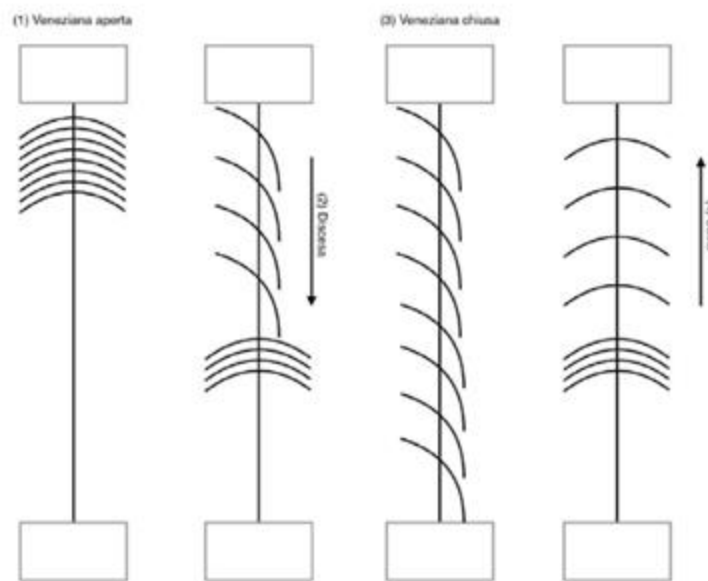

fig. 6
Typically, in this design, the individual elements are collected in packs of slats before moving up and then released before moving down. Creating slat packs (see fig. 6 p. (4) Up) means positioning the slats horizontally (fully open position corresponding to the 0% value) so that they take up as little space as possible when the blind is stationary in the up position.
Releasing the slats (see Fig. 6 p. (2) Down) means positioning the stacks vertically, completely blocking the light (fully closed position corresponding to the 100 % value), in order to improve the light control effect when the blind is closed. Therefore, the slats only move when there is a change in direction when the blind is raised or lowered.